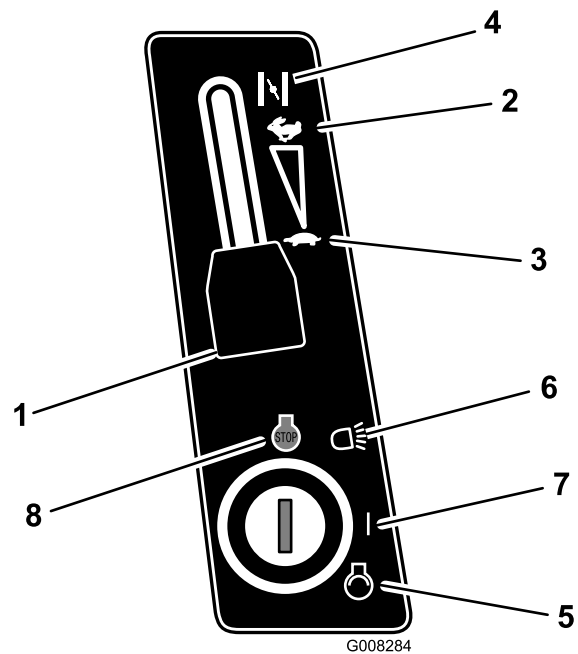

Figure 12
5. When starting a cold engine, shift the throttle control lever to the Choke position (Figure 12).
6. Shift the throttle control lever to the Slow position (Figure 12).
7. Turn the ignition key clockwise and hold it in the Start position (Figure 12). When the engine starts, release the key.
8. After the engine starts, slowly shift the throttle control lever to Fast (Figure 12).
1. Move the throttle control lever to Slow (Figure 12).
2. Turn the ignition key to Off (Figure 12).